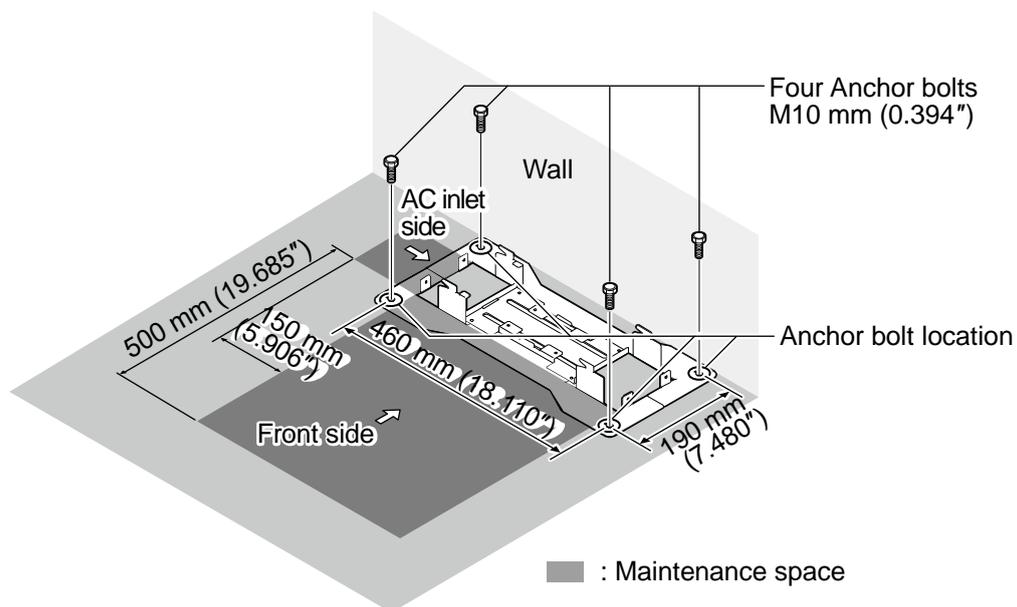

Figure 2-40 Floor-Mount Spacing Guide
2. Refer to Figure 2-40 Floor-Mount Spacing Guide for required spacing before drilling holes for 10 mm (0.394") anchor bolts (locally procured).